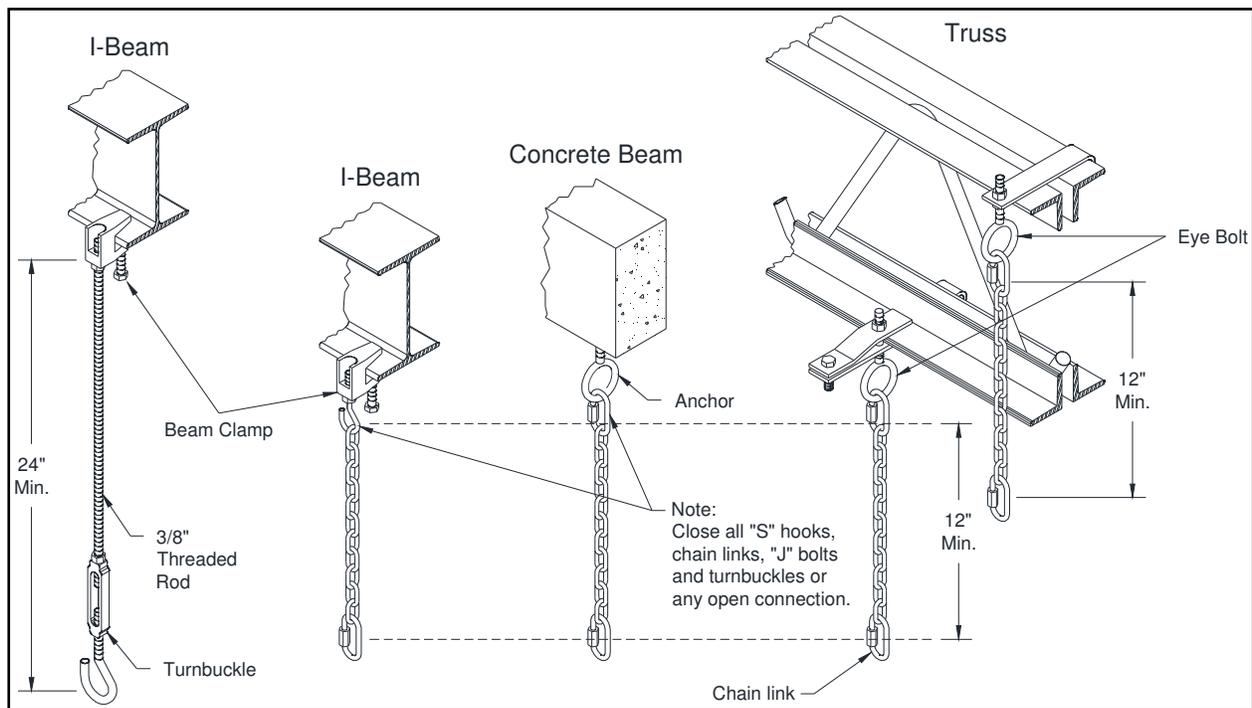
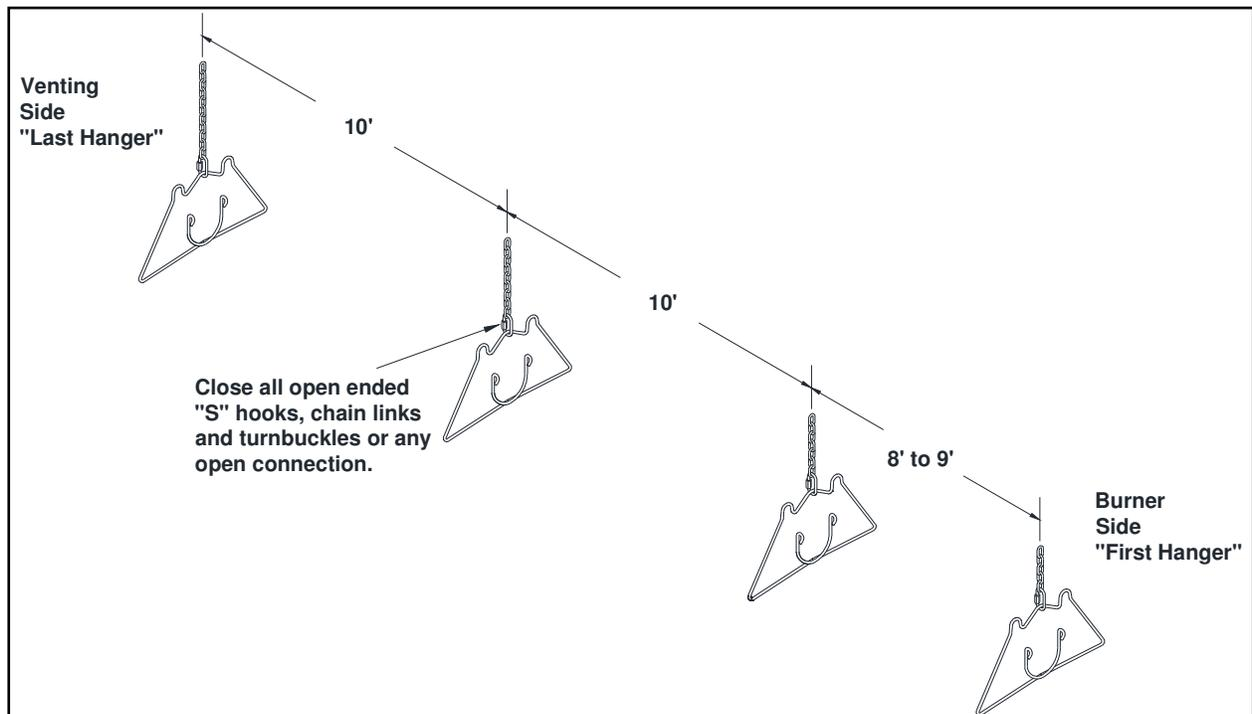

Figure 4: Suspension Mechanism
Figure 5: Hanging Points
- Suspension mechanism must allow for lateral tubing expansion. A minimum 12" length welded link chain with a working load limit of at least 200 lbs. is recommended (refer to Figure 4 for more details). **SRP recommends and make available "quick links" for connecting chain. If any open ended "S" hooks and turnbuckles are used, the open ends must be closed to avoid unhooking chain with inadvertent contact.**
- Locate hanging chain at predetermined suspension points in the structure. **It is required that the first 2 hangers** be about 8' to 9'. Thereafter, 10' apart on average is acceptable for the remainder of the heat exchanger. At no time should hangers be more than 12' apart, (see Figure 5).
- Install the tube and reflector support hanger on the chain with “Quick Links”, refer to Figure 4 & Figure 5. Anchors, Beam Clamps & Eye Bolt must be of minimum 200 pound capacity.